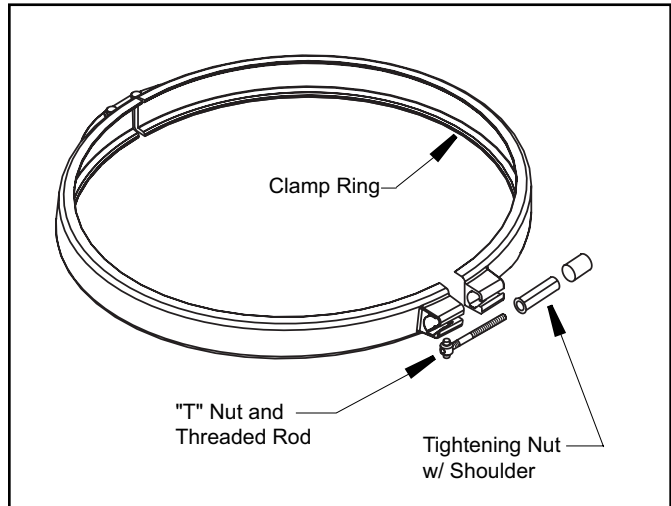

Figure 5. Filter Clamp Ring
3. Check that the tank clamp is correctly seated and tight (See Figs. 5 and 6).